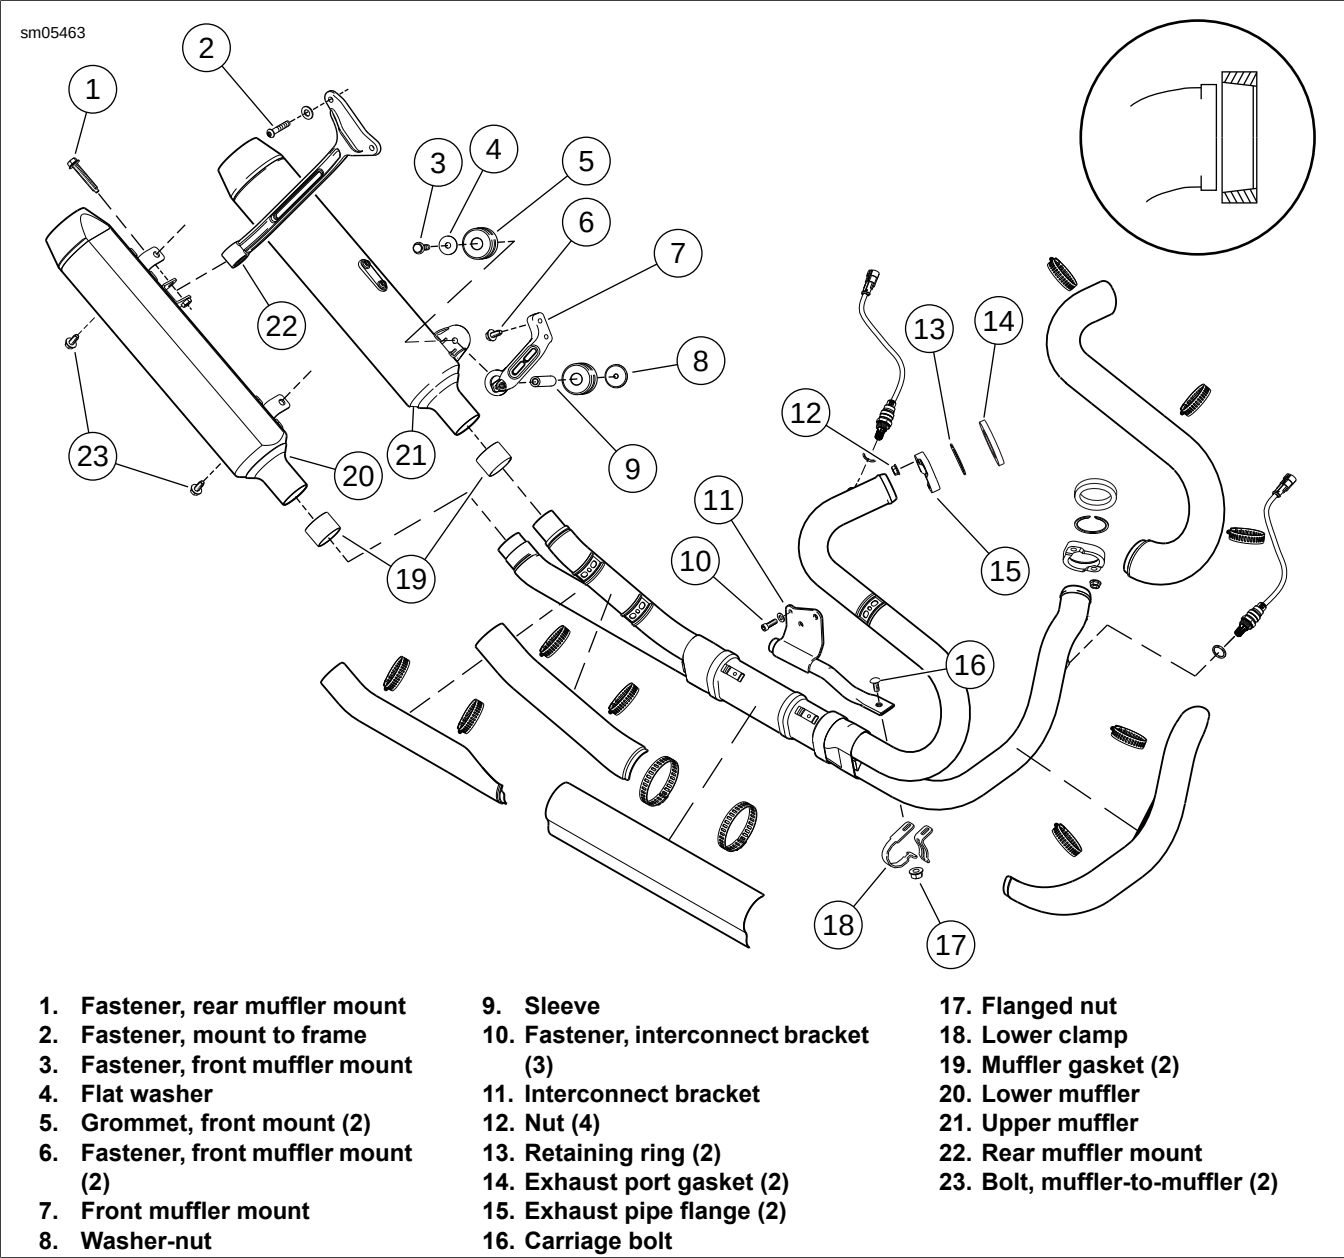

Figure 4-69. Exhaust System: XR 1200X
1. See Figure 4-69. Remove forward muffler mount fastener (3) and washer-nut (8).
2. Remove two bolts (23) fastening mufflers together.
3. Slide upper muffler (21) back off header pipe to remove.
4. Remove rear muffler mount fastener (1).
5. Rotate lower muffler (20) counterclockwise to disengage from the rear mount (22) and slide back off header pipe to remove.
6. Remove mount grommets (5) and sleeve (9).
7. Inspect rear mount (22) and replace if damaged.
8. Inspect muffler seals (19) and replace if necessary:
3. See Figure 4-69. Loosen or remove head pipe heat shields to gain access to header pipe flange nuts (12).
4. Remove flange nuts (12) and pull flanges (15) off from studs.
5. Remove nut (17) and carriage bolt (16) from lower clamp (18).
7. Inspect exhaust port gasket (14) and replace if necessary.
- b. Push **new** gasket into place with the larger ID facing the header pipe, as shown in the inset in Figure 4-69.
8. Remove retainer rings (13) and flanges (15) if necessary.
9. If necessary, remove mount brackets (7, 22) and interconnect bracket (11).
1. See Figure 4-69. If removed, install flanges (15) and retaining rings (13).
2. If removed, install rear mount (22), front mount (7) and interconnect bracket (11).
- a. Tighten fasteners (2) to 15-20 ft-lbs (20.3-27.1 Nm).
- b. Tighten fasteners (6) to 45-50 ft-lbs (61.0-67.8 Nm).
- c. Tighten fasteners (10) to 30-33 ft-lbs (40.7-44.7 Nm).